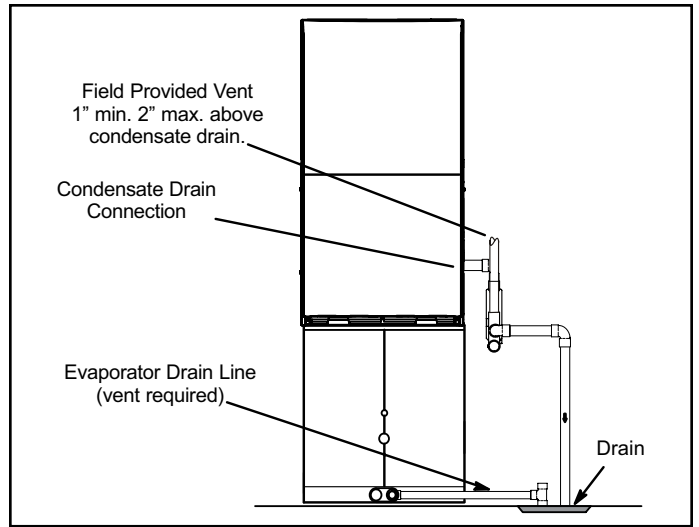
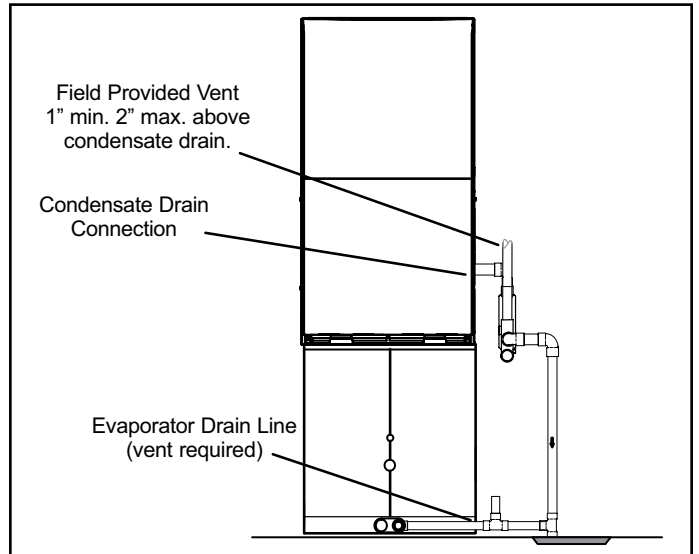

Figure 45. Unit with Cooling Coil Using Separate Drain
Figure 46. Evaporator Coil Using a Common Drain
5. Figure 45 shows the furnace and evaporator coil using a separate drain. If necessary the condensate line from the furnace and evaporator coil can drain together. See Figure 46. The field provided vent must be a minimum 1" to a maximum 2" length above the condensate drain outlet connection.